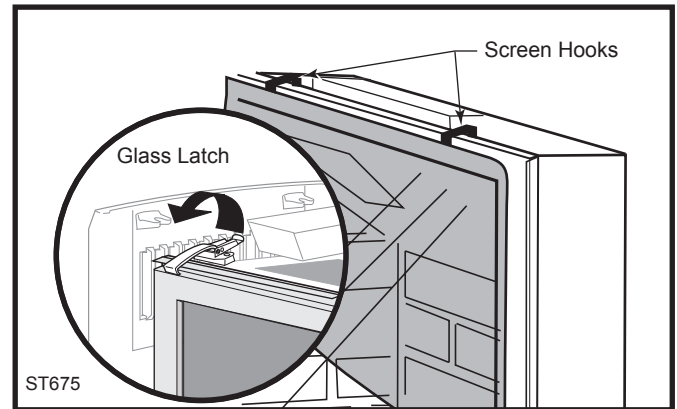

Fig. 33 Remove the screen or glass panel.
3. Remove the screen by lifting up and away from the unit. Or, if so equipped, remove the glass panel by releasing the two upper retainer latches. Lift the panel up and off of the firebox frame. (Fig. 33)